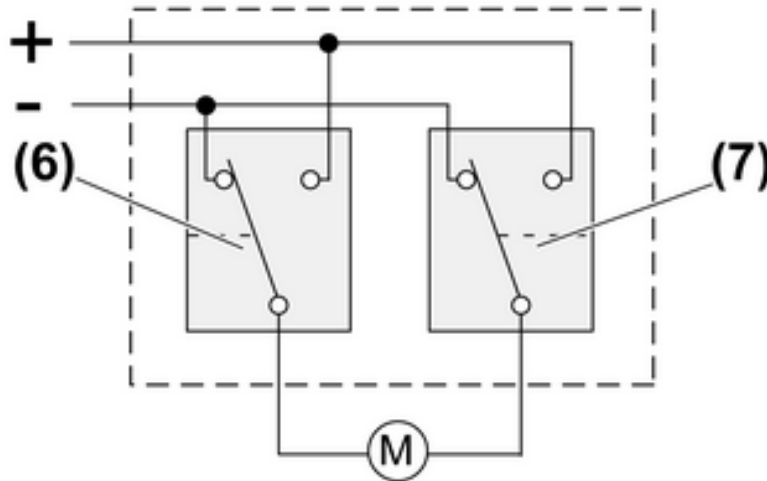

Figure 2: Control of the shutter motor
- The direction of rotation of the shutter motor is determined by switching the polarity of the motor outputs "pole-changing principle" (Figure 2)